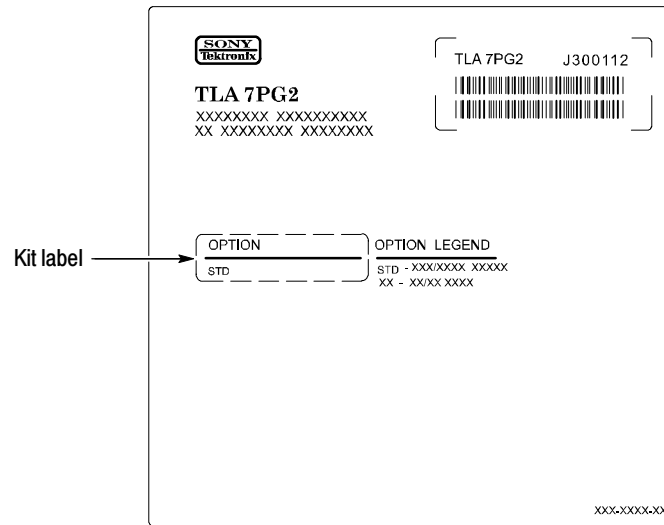

Figure 6: TLA7PG2 Pattern Generator module label
4. Locate the label on the side of the instrument; it looks similar to the label in Figure 6.
6. Locate PowerFlex option label from the label sheet that you received with this kit. Peel the label from the sheet and affix it to the location indicated by “Kit label” in Figure 6.